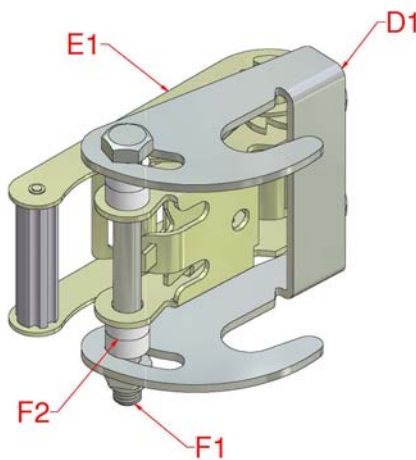

Figure 6a, 50mm Hook and Ratchet Assembly
- 6.1 If $L > 10\text{m}$ assemble ratchet hooks (D1) to ratchets (E1) using the M12x130 bolts and nuts (F1) with two ratchet spacers (F2) each side of the ratchet, Figure 6a.